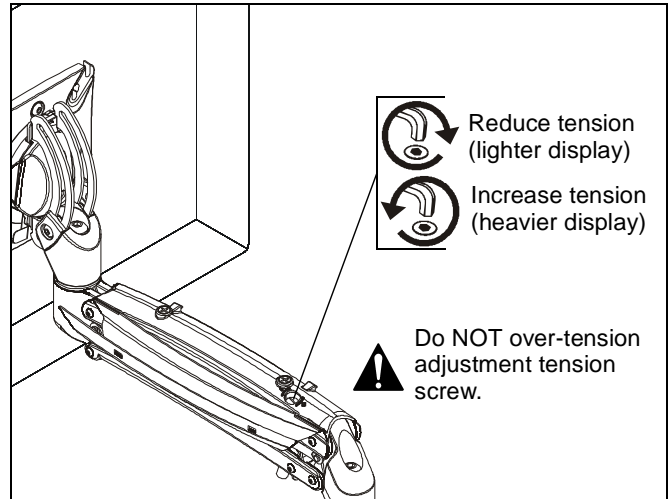

Figure 17
**NOTE:** Tension may also be adjusted with upper tension adjustment screw inside cable management cover and 1/8" hex key (L). (See Figure 17)